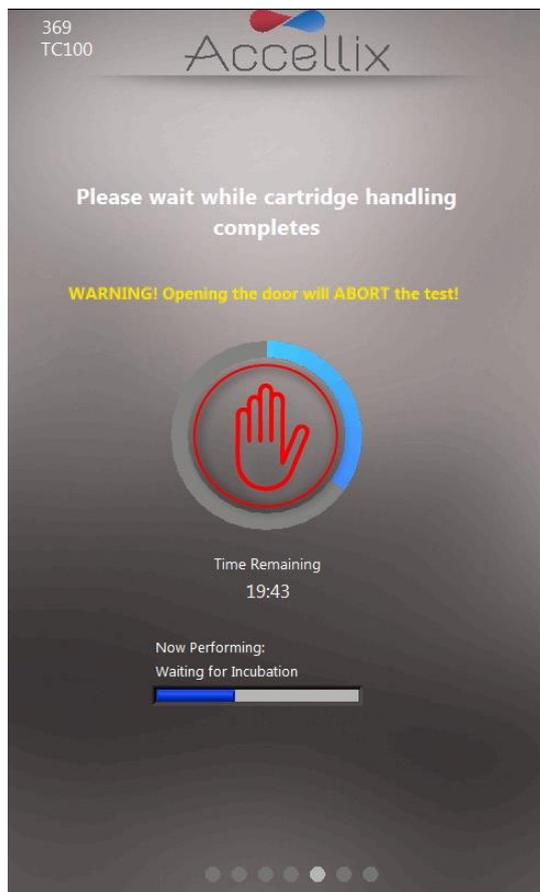

Figure 41: Progress Indicator and Time Remaining screen
**Note:** Some instruments may be configured to allow for a “Control Sample” to be run. In this case, an additional option appears above the Sample ID field (if the current assay can be run as a control sample) to allow for setting the run as a control sample run as illustrated in Figure 41:
11. The **Progress screen** (Figure 41) displays a progress indicator and a **Time Remaining** countdown timer. The user can monitor the test progress and approximate time remaining.
**Note:** To stop an assay that is in progress, the user can tap **Stop**, the red hand at the center of the progress indicator (see Figure 41). Refer to Section **11.3 Termination of an Assay Run**.
The **Stop** icon may be used to terminate an assay run (Figure 41).